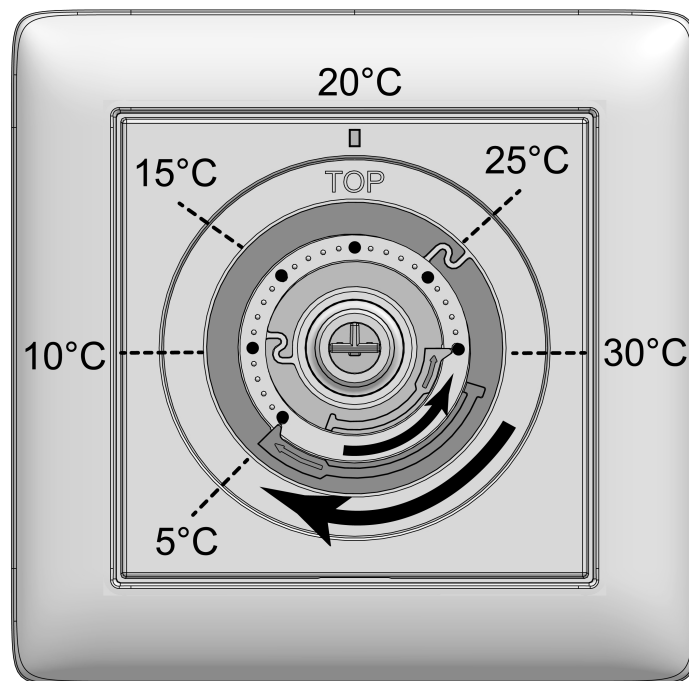

Figure 4: Adjustment rings for temperature limit
In the middle position, the device regulates to approx. 20 °C target temperature. The room temperature reached depends on the installation location of the device and the ambient conditions. The lowest setpoint temperature is approx. 5 °C and the highest setpoint temperature is approx. 30 °C (see figure 4).
- Pull the control knob (5) off the central plate (4) so that the adjustment rings (7) are visible (see figure 4). The temperature values shown in the picture are for orientation purposes.